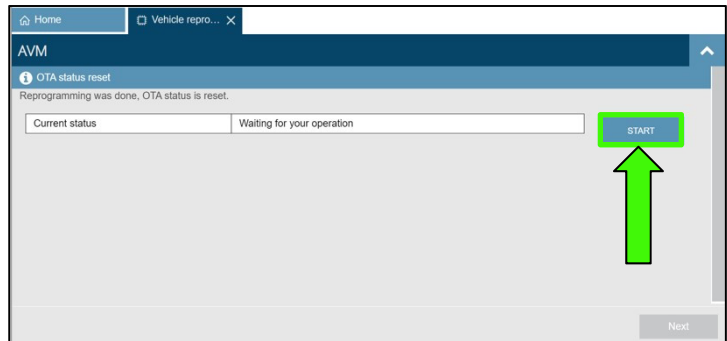

Figure 18
19. When the screen in Figure 18 is displayed, select **Start**.